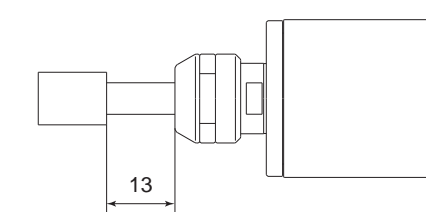

Fig. 18
- Do not exceed 13mm of overhang for mounted grindstones as shown in Fig. 18. If the overhang must exceed 13mm, reduce the brushless / air motor, speed in accordance with Table. 4.